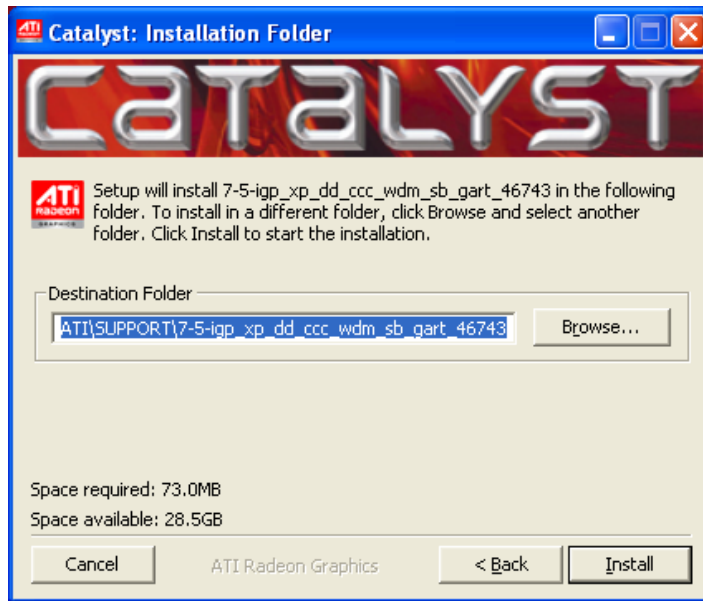

Figure 7-6: Select Destination Folder
Step 6: The screen in **Figure 7-6** appears. Select the destination folder.